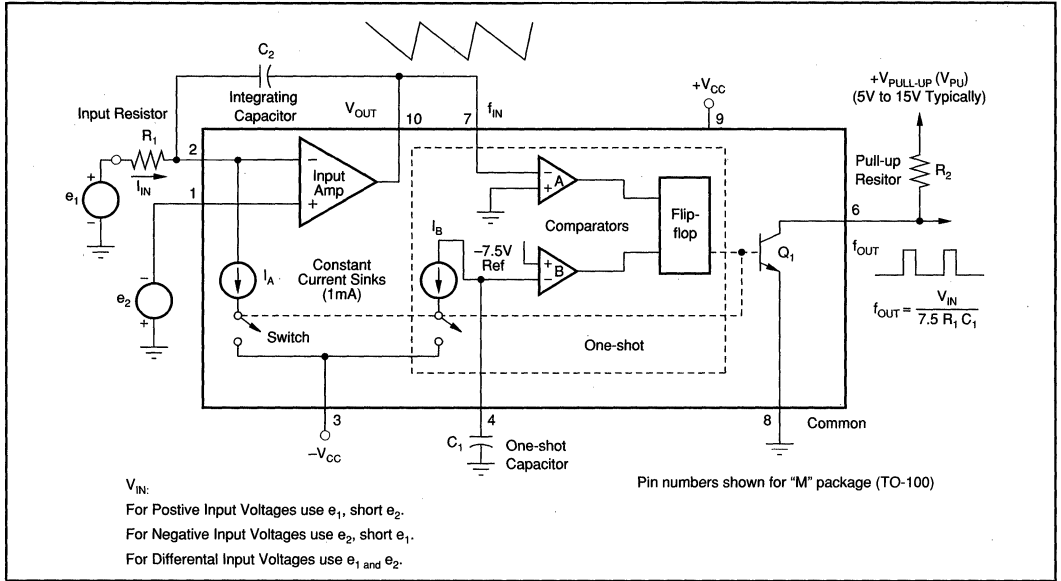
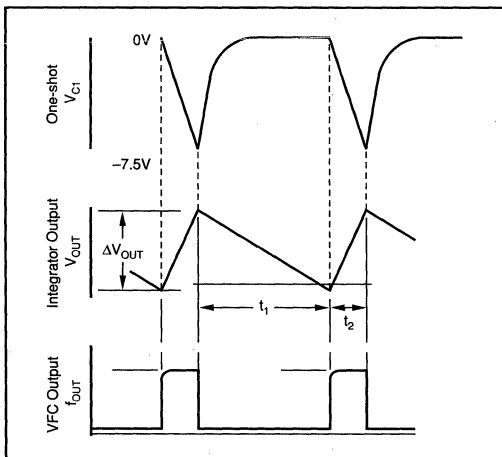

FIGURE 4. Functional Block Diagram of the VFC320.
FIGURE 5. Integrator and VFC Output Timing.
The VFC320 monolithic voltage-to-frequency converter provides a digital pulse train output whose repetition rate is directly proportional to the analog input voltage. The circuit shown in Figure 4 is composed of an input amplifier, two comparators and a flip-flop (forming an on-shot), two switched current sinks, and an open collector output transistor stage. Essentially the input amplifier acts as an integrator that produces a two-part ramp. The first part is a function of the input voltage, and the second part is dependent on the input voltage and current sink. When a positive input voltage is applied at V_{IN} , a current will flow through the input resistor, causing the voltage at V_{OUT} to ramp down toward zero, according to $dV/dt = V_{IN}/R_1C_1$. During this time the constant current sink is disabled by the switch. Note, this period is only dependent on V_{IN} and the integrating components.
The transfer function for the VFC320 is derived for the circuit shown in Figure 4. Detailed waveforms are shown in Figure 5.
In general, the design sequence consists of: (1) choosing f_{MAX} ; (2) choosing the duty cycle at full scale ($D_{FS} = 0.25$ typically), (3) determining the input resistor, R_1 (Figure 4), (4) calculating the one-shot capacitor, C_1 , (5) selecting the integrator capacitor C_2 , and (6) selecting the output pull-up resistor, R_2 .